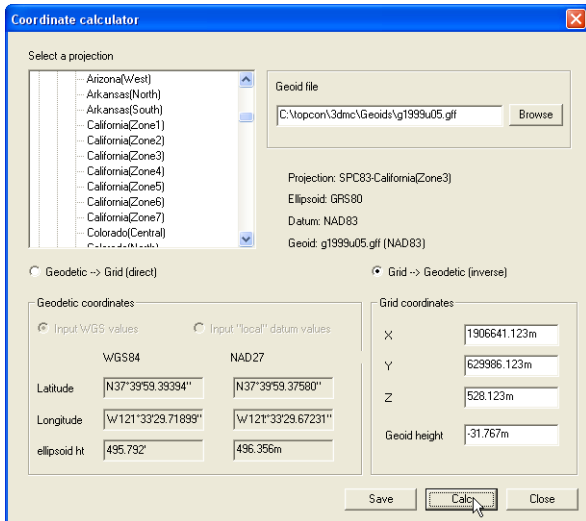

Figure 2-15. Coordinates Calculated
5. Click **Calc**. 3D-Office calculates the geodetic coordinates and the geoid height (if applicable) (Figure 2-15).